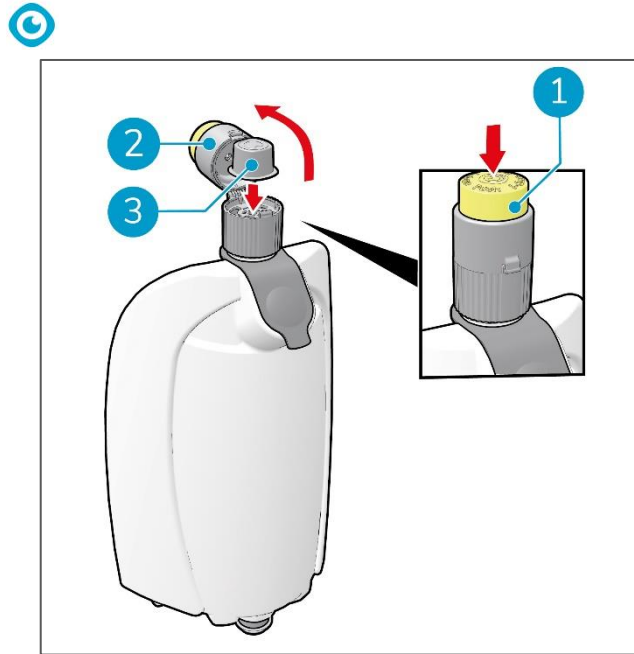

Figure 10
4. Open the injector top (Figure 10, pos 2).
5. Place the pod (Figure 10, pos 3) with the i-dose logo pointing upwards, in the injector.
7. Push the yellow button (Figure 10, pos 1) down and release it.